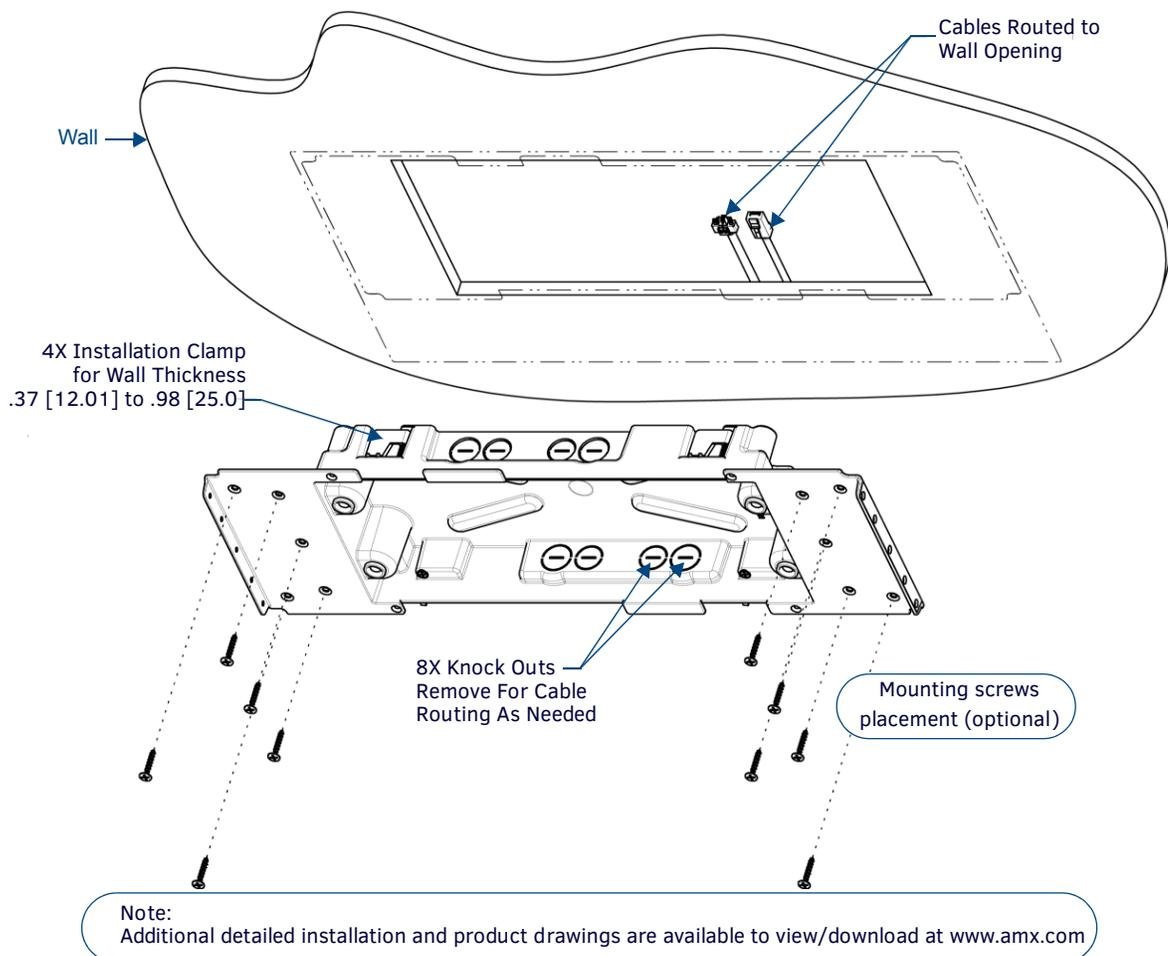

FIG. 31 MXD-1900L-PAN Backbox installation (Landscape)
3. Thread the incoming power and Ethernet wiring from their terminal locations through the surface opening (FIG. 31). Note that FIG. 31 shows the MXD-1900L-PAN, but the illustration applies equally to the MXD-2000XL-PAN. Also note that FIG. 31 shows a landscape panel but the installation of a portrait panel is essentially the same, other than the vertical orientation.
- For additional strength, #4 mounting screws (not included) may be secured through circular holes located at the left and right sides of the MXD-2000XL-PAN (see FIG. 31). In order to prevent damage to the touch panel, make sure that these are flush with the Backbox.